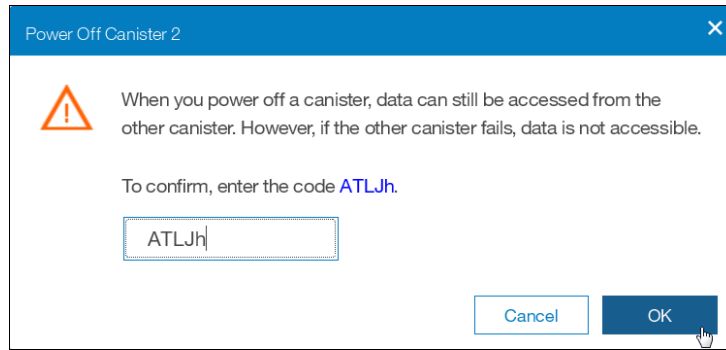

Figure 12-113 Canister power off confirmation window
3. Confirm that you want to power off the canister by entering the confirmation code and clicking **OK**, as shown in Figure 12-113 on page 701.